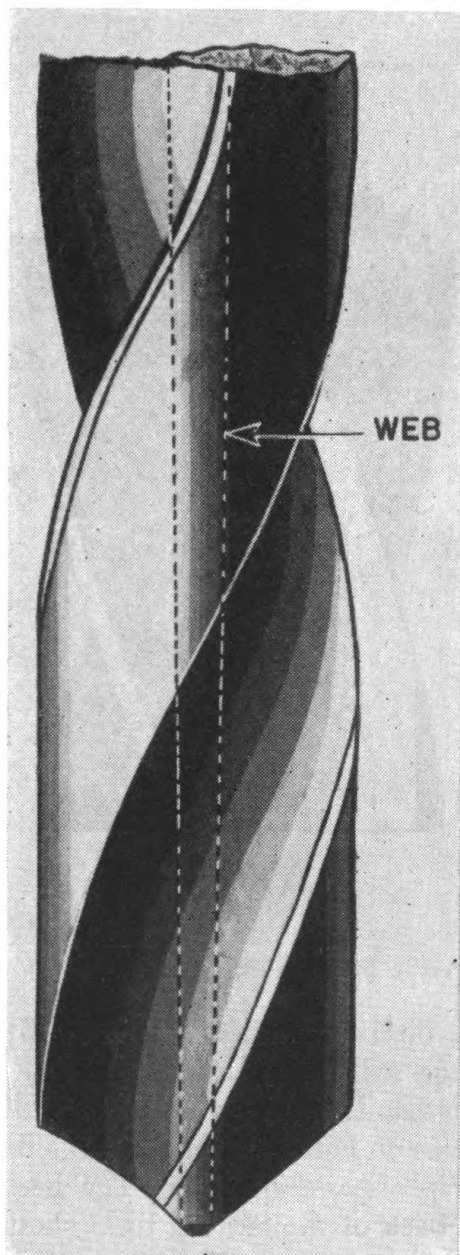

FIGURE 43.—Drill web.
(7) *Web*.—The web (fig. 43), is the metal column which separates the flutes. It runs the entire length of the drill between the flutes, gradually increasing in thickness toward the shank.